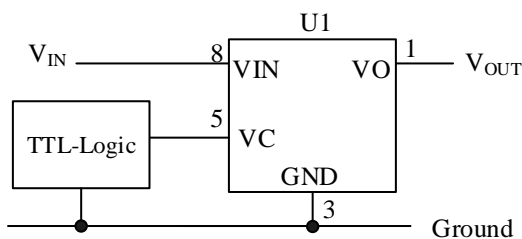
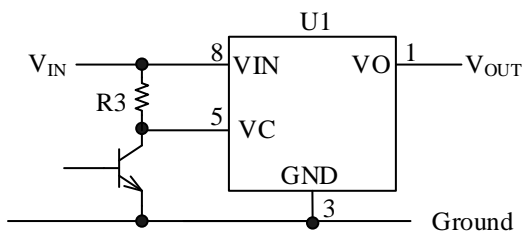

Figure 13-2. Output On/Off Function (In the Case of General-purpose Logic IC)
Figure 13-3. Output On/Off Function (In the Case of Transistor)
As shown in Figure 13-2 and Figure 13-3, the on/off signal is generated by a general-purpose logic IC or a transistor, and inputs to the VC pin. When the general-purpose logic IC is used, pull-up resistor, R3, is unnecessary.
In the case of Figure 13-3, the R3 value should satisfy Equation (4) that the maximum sink current of the VC pin is taken into account. The minimum value of R3 should be set taking into account the loss of the transistor.